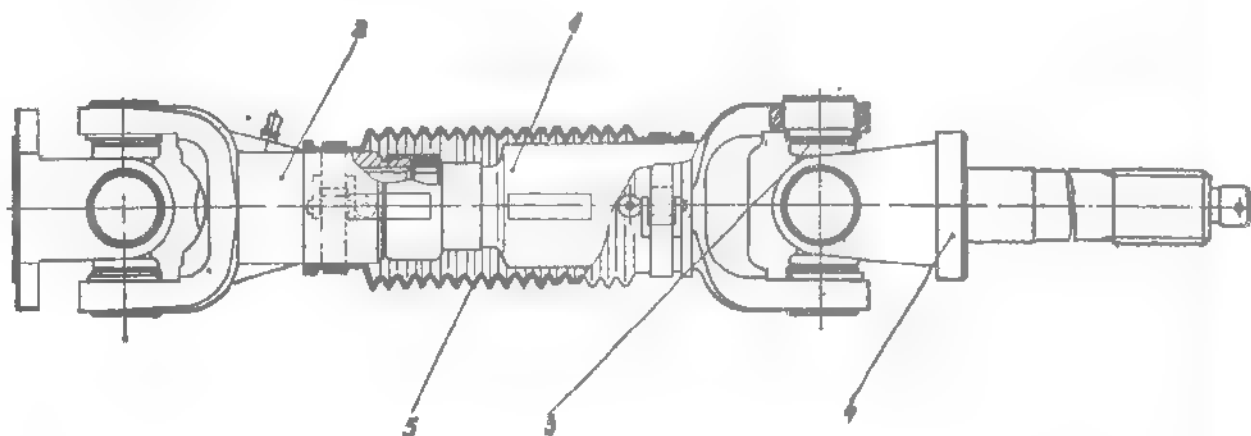

Fig. 4. 11. CROSS PROPELLER SHAFT
- Remove propeller shaft by blowing the axle shaft (steering knuckle 4) - see Fig. 4. 111, - and depressing it from the bearing. Use for this operation an aluminium or plastic hammer.